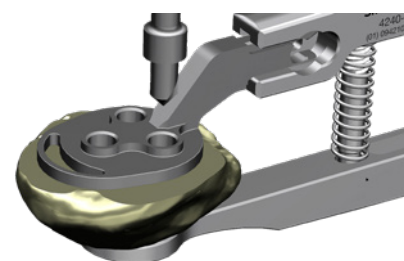

Figure 39
6. Use the Patella Peg Drill to drill for the three peg holes through the Patella Drill Guide until the drill bottoms out in the guide (Figure 39).